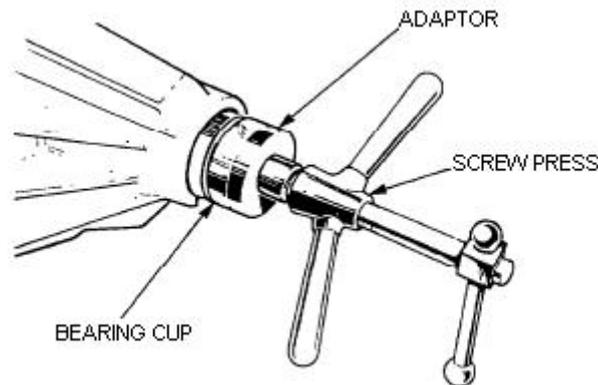

Figure 217 Installing the Pinion Bearing Cup Replacing Tool
- b. Position the screw press and adaptor (Table 3, Serial 55 and 56) in the axle case pinion bearing nose (Figure 217).